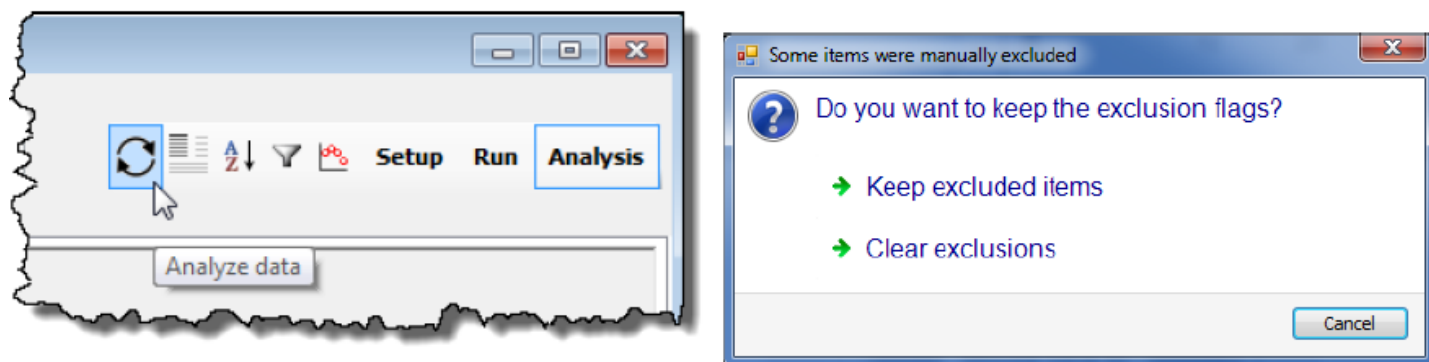

Figure 39. Confirmation of exclusions when re-analyzing data.
- When you re-analyze the data, you will be asked if you want to keep the exclusions or not (Figure 39)